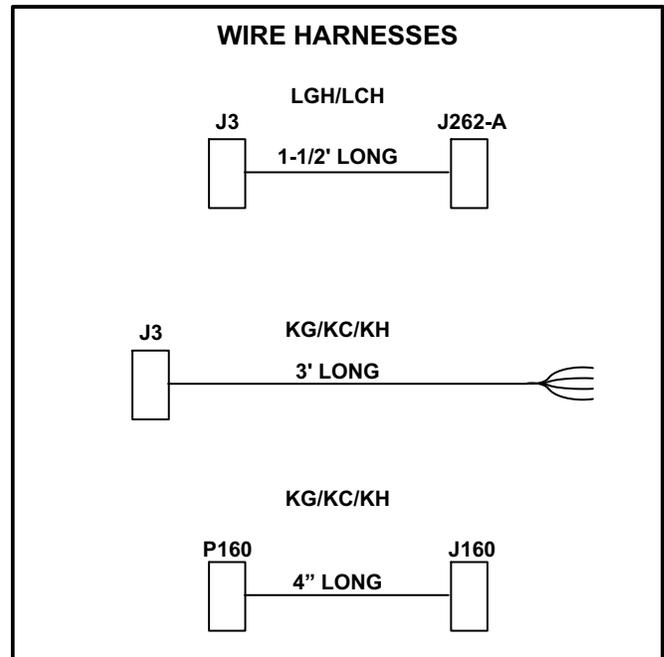
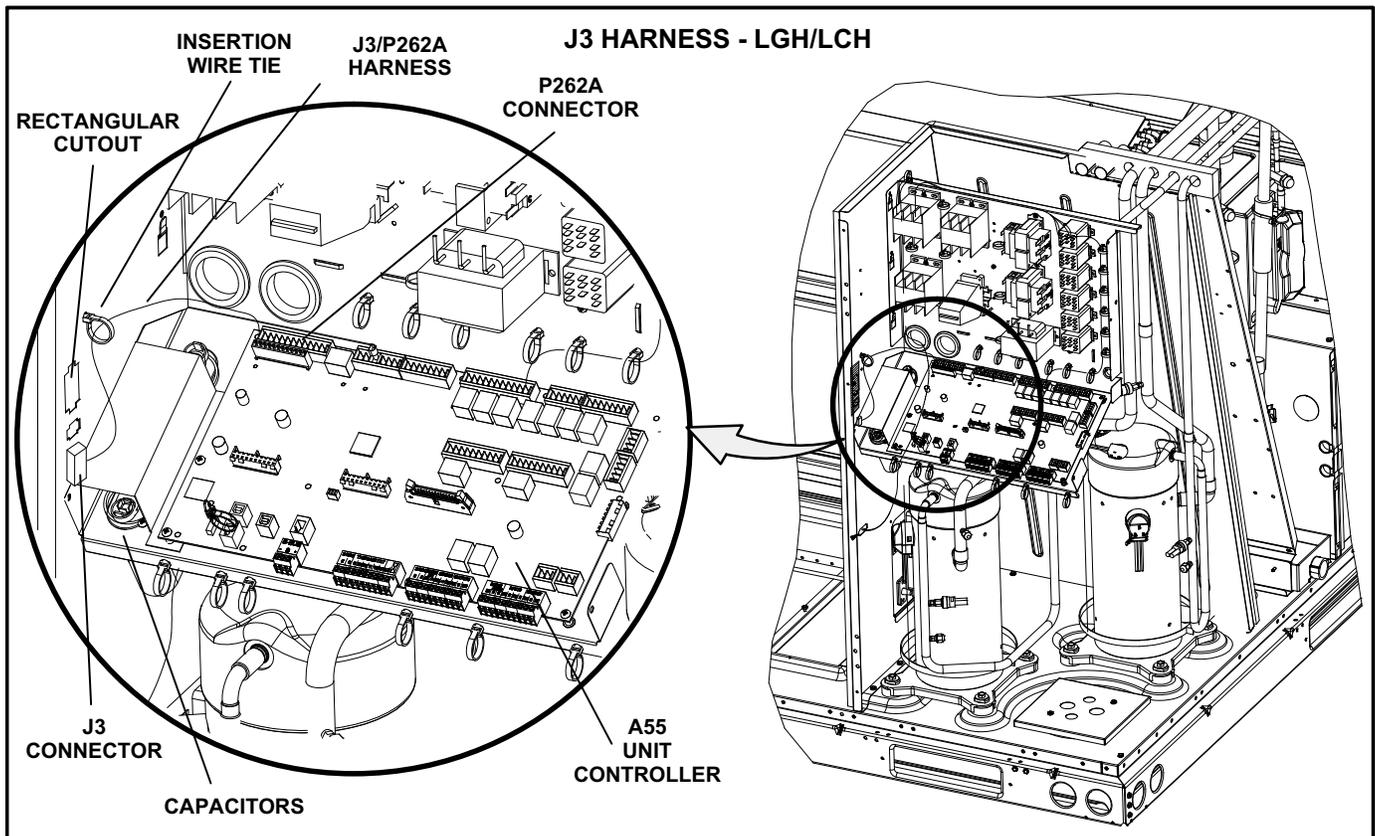
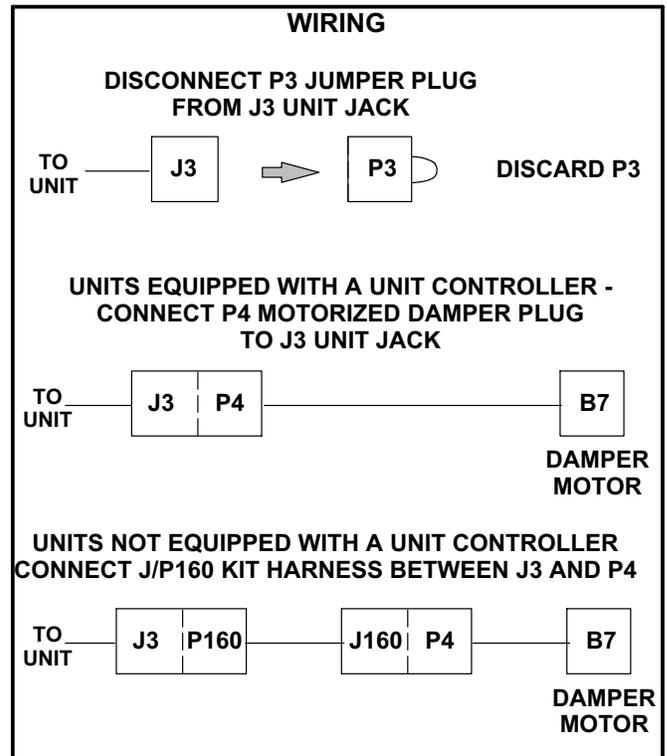

FIGURE 1
FIGURE 2
FIGURE 6
Locate the appropriate kit harness. See figure 1. Snap J3 harness connector into the square cutout on the left side of the control box (near the capacitors). See figure 2 or 3.
Connect the other end of the J3 harness to P262A on the A55 Unit Controller. See figure 2.
- 6- Secure J3 harness in control box using insertion wire tie on left side of control box. See figure 2 or 3.
Locate shortest harness. See figure 1. Connect the kit jumper harness plug P160 to J3 connector (previously installed on left side of control box). Connect other end of kit harness jack J160 to the damper motor plug P4. See figure 6.
Connect damper motor harness plug P4 into the J3 connector (previously installed on left side of LGH/LCH control box). See figure 6.